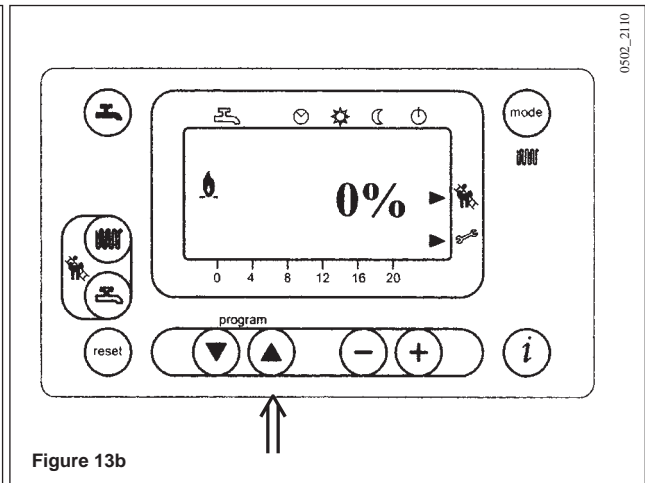

Figure 13b
- Press the  key to set the minimum heat output, with the display showing 0% (figure 13b).